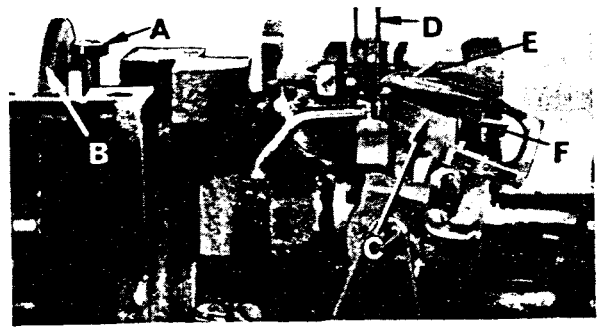

Fig. 10
The differential feed ratio is set by loosening screw (A, Fig. 10) and moving the selector slide (B) to the desired position. The screw and selector slide are accessible through the top of the cloth plate on the left side. Moving the differential feed selector slide (B) toward the front increases the amount of differential and moving it back decreases the differential feed. Retighten screw.
Set the rear needle guard (C, Fig. 10) horizontally so that it does not quite contact the rear of the right needle (D) when at its most forward point of travel. A clearance of .005 inch (.127 mm) is permissible. It should be set as low as possible, yet have its vertical face approach within about $3/64$ inch (1.19 mm) of the needle, until the point of the looper (E), moving to the left, is even with the needle. To move needle guard merely loosen screw (F), move needle guard as required, and retighten screw.